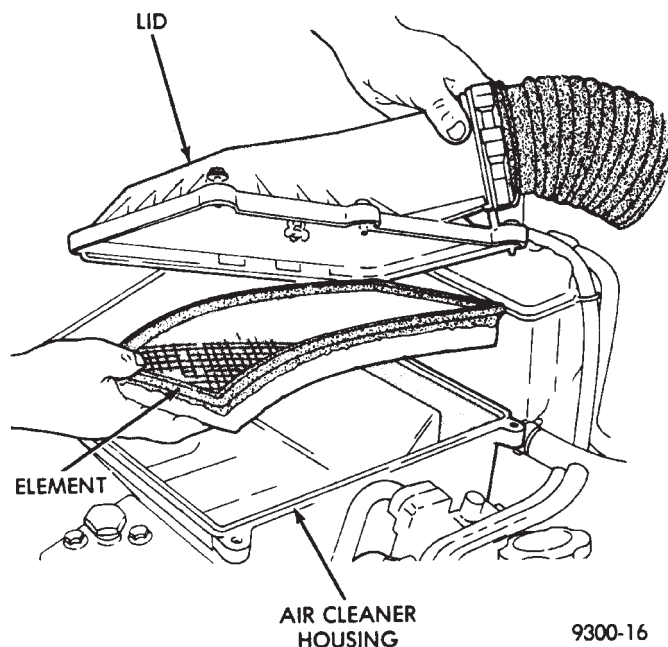

Fig. 4 Air Cleaner Housing and Element
- (1) Remove air cleaner lid attaching screws. Lift lid off of air cleaner housing.
- (2) Remove filter element (Fig. 4).
- (3) If necessary, clean the inside of the air cleaner housing.
- (4) Install new filter element.
- (5) Place lid over air cleaner housing. Tighten screws.